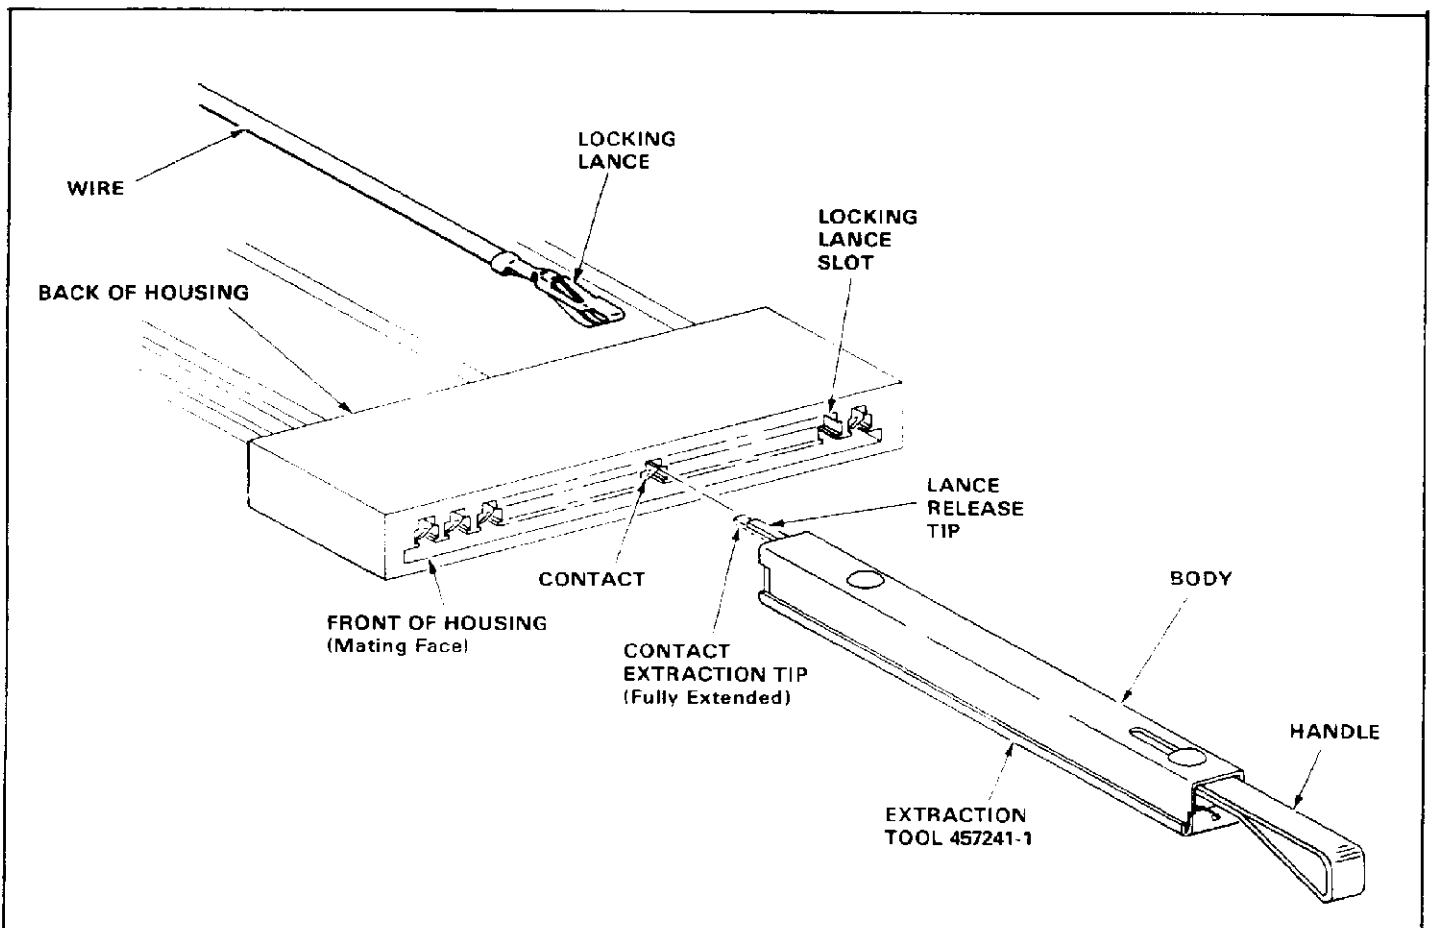

Fig. 3
4. CONTACT EXTRACTION (Figure 3)